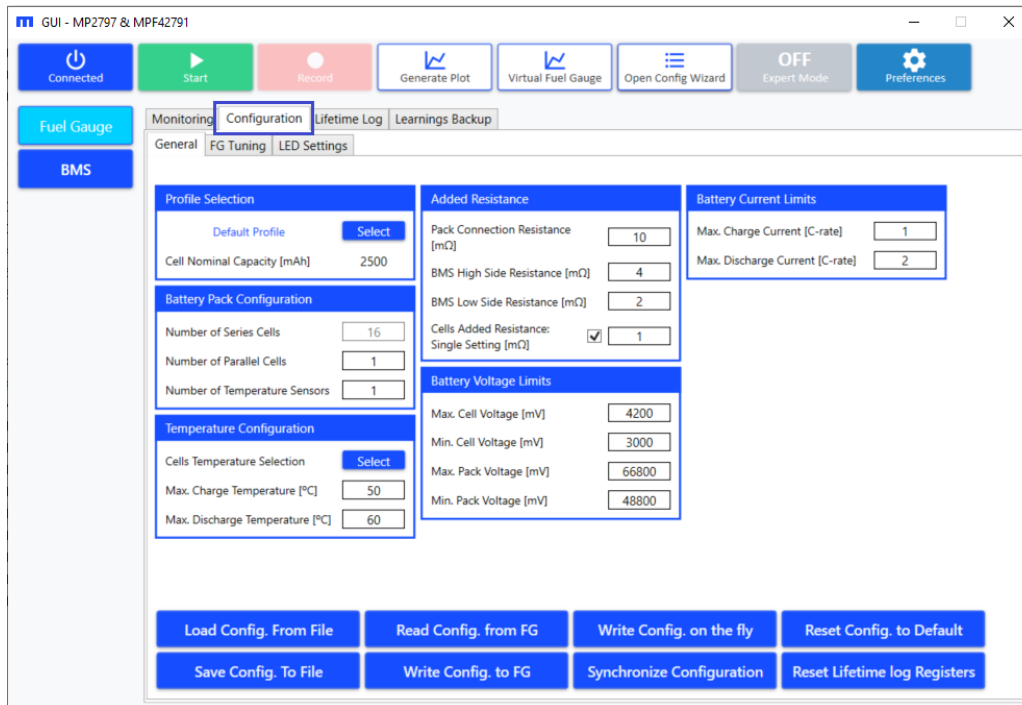

Figure 40: Fuel Gauge Configuration
2. Select the Configuration tab (see Figure 40 on page 32). There are three sub-tabs under the Configuration tab: General, FG Tuning, and LEDs Settings.
2. Select the Configuration tab (see Figure 40 on page 32).